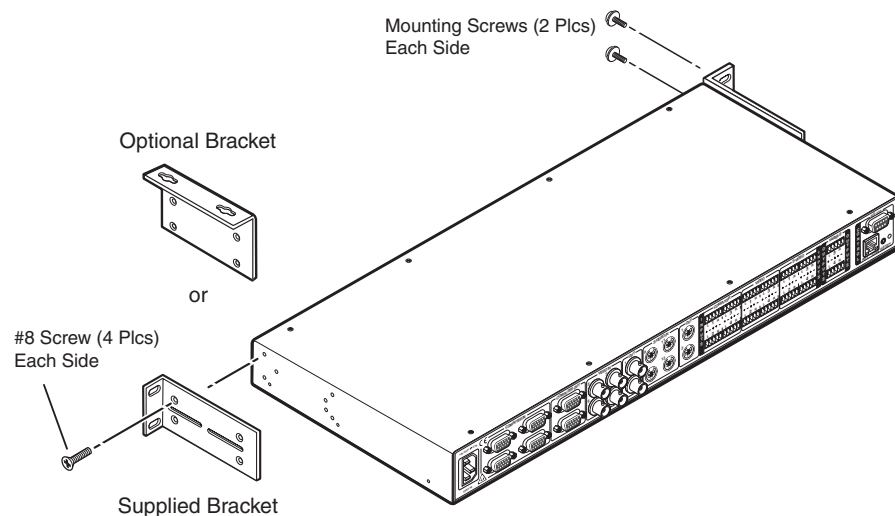

Figure 2-1 — Mounting the switcher
2. Attach the rack mount brackets to the switcher with the eight #8 machine screws provided (figure 2-1).
1. Secure the two table/wall mounting brackets included in the under-desk mounting kit to the switcher with the eight machine screws provided in the kit (figure 2-1).